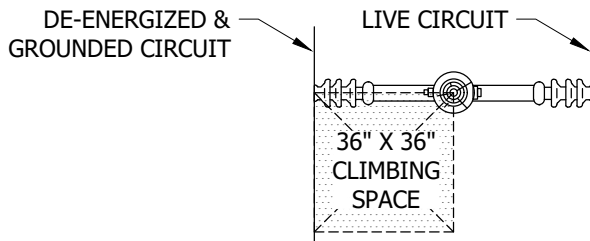

FIGURE 1 (Ib)
- b. ONE OR BOTH CIRCUITS ARE DE-ENERGIZED, BOND WIRES AND DE-ENERGIZED CIRCUIT ARE GROUNDED, AND CLIMBING SPACE IS PROVIDED AS SHOWN IN FIGURES 1 & 2.